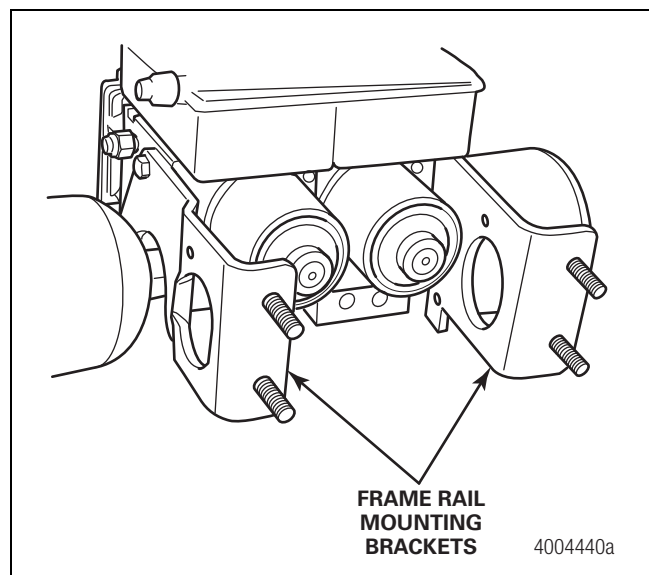

Figure 4.5
- 15. While supporting the HCU, loosen and remove the four nuts (two per side) that hold the HCU mounting brackets to the frame rail of the vehicle. Remove the HCU, with mounting brackets attached, from the vehicle. Figure 4.5.